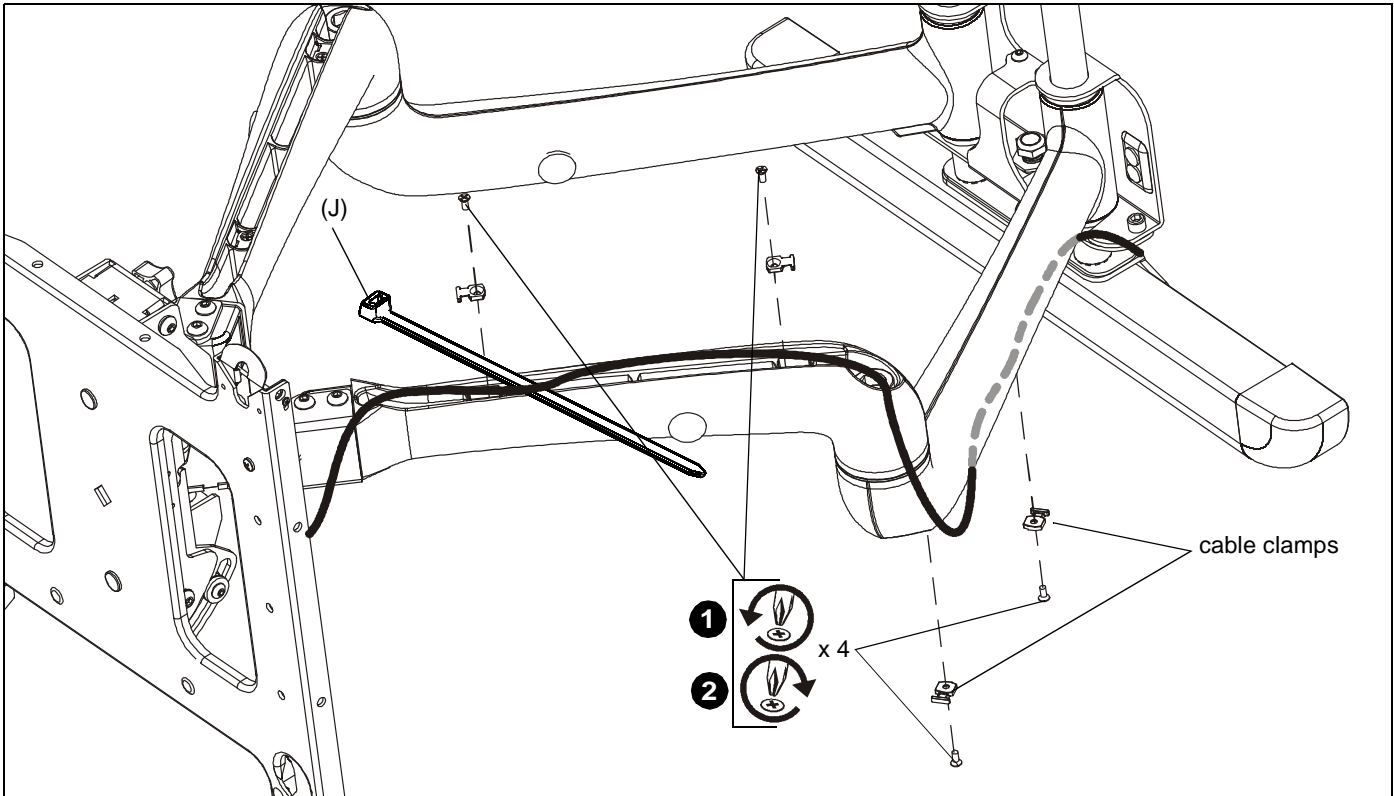

Figure 7
1. Loosen front and rear cable clamps on top arm. (See Figure 7)
2. Thread cable ties (J) under cable clamps and secure clamps to top arm. (See Figure 7)
3. Route power/audio/video cables through the cable channel in top arm (See Figure 7), allowing sufficient slack in cables for left/Right movement of display and swing arm and also swing arm extension and retraction.
4. Secure cables to top arm using two cable ties (J).